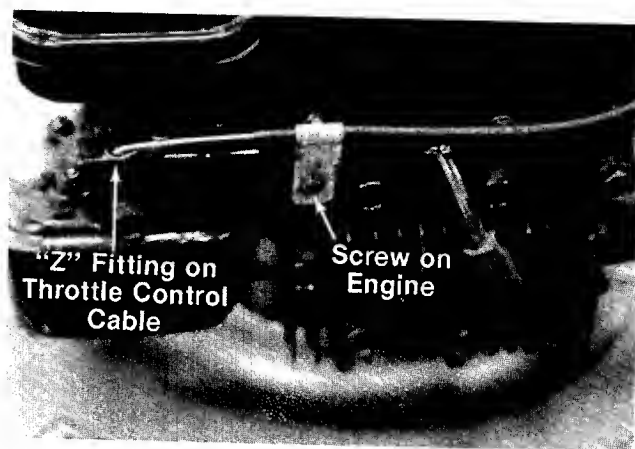

FIGURE 21.
8. Disconnect the throttle control cable from the engine by loosening screw on engine and disconnecting the "Z" fitting. See figure 21.